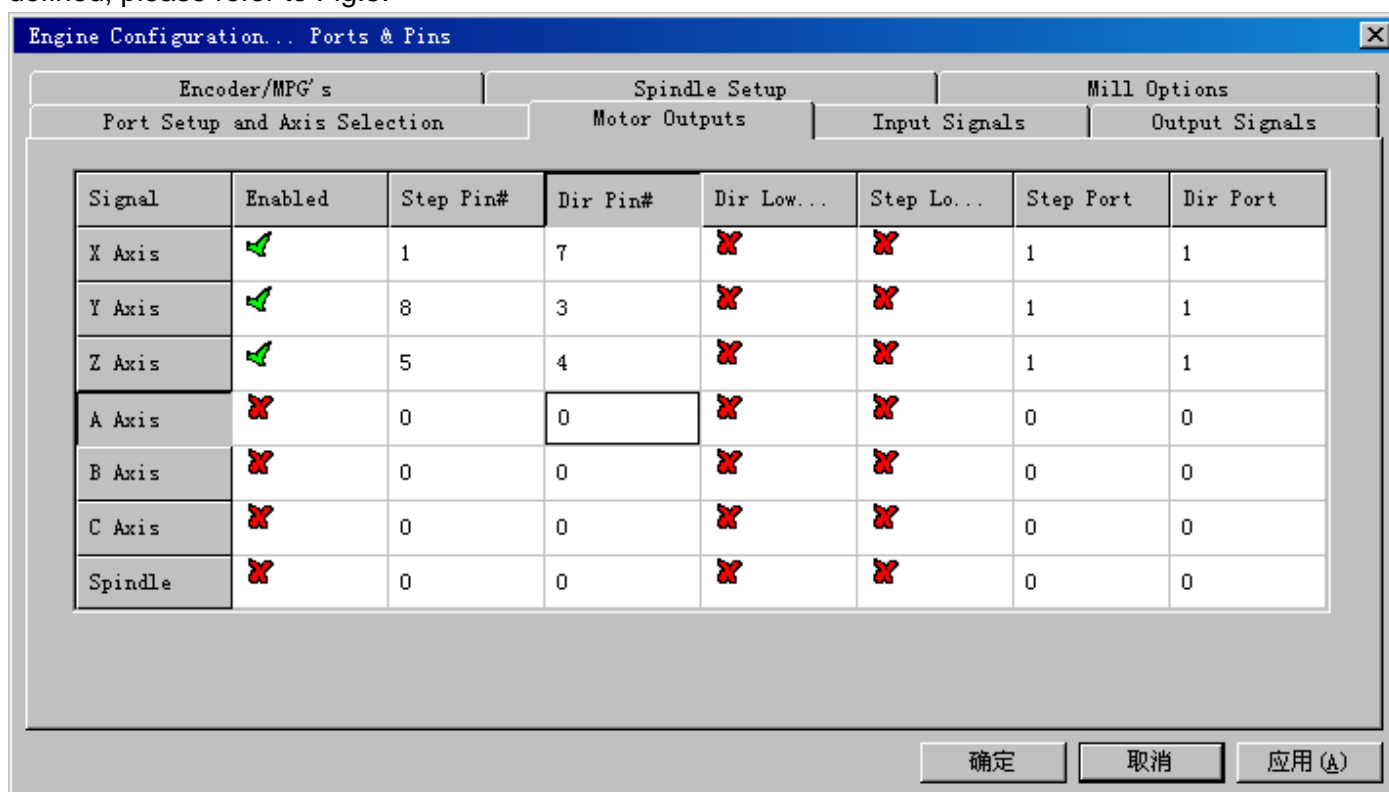
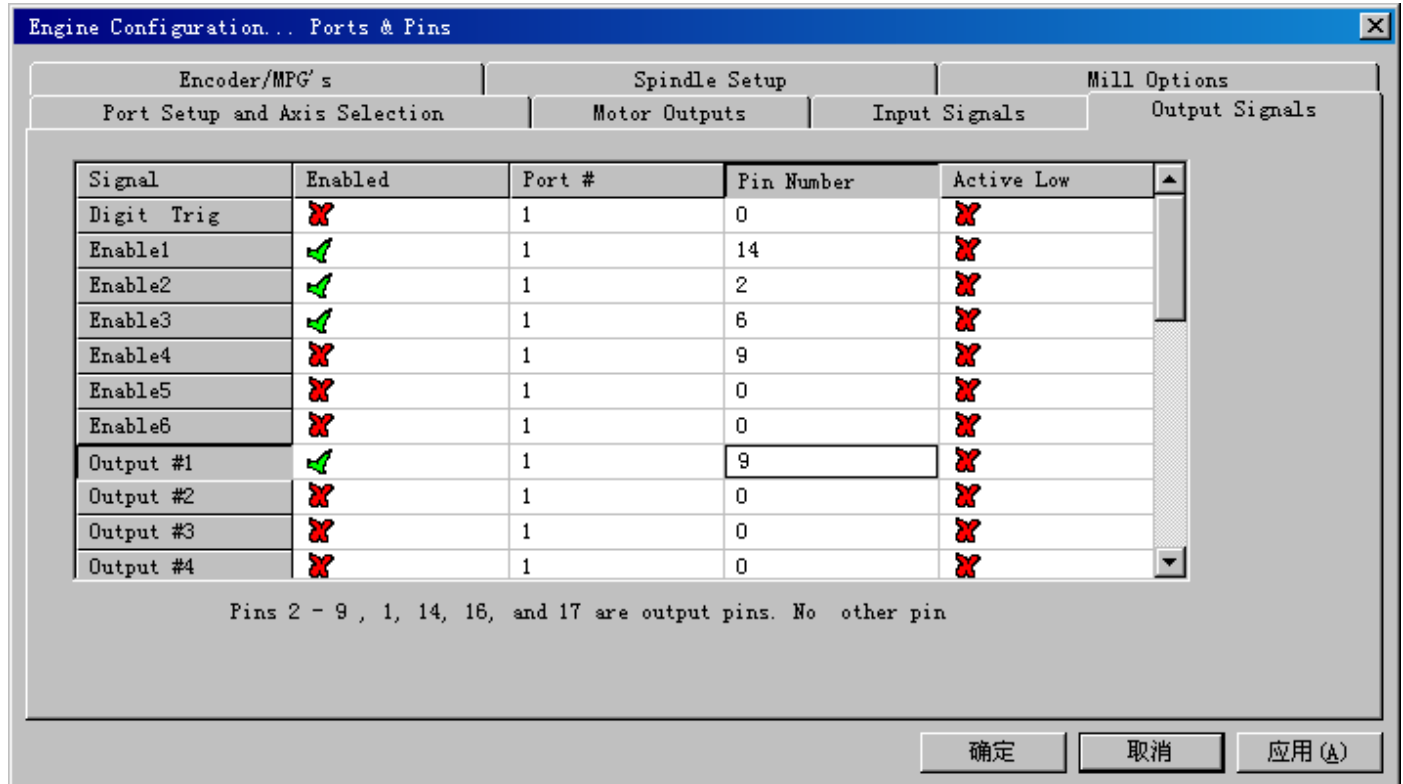

Fig.5
Fig.6
To set up the basic frequency within the above Circle 1. This parameter will affect the rotational speed of the motor. After the setup of basic frequency, select Circle 2 where *Configuration Scripting* will be defined, please refer to Fig.5.
Then select the *output signals* column, as shown in Fig.6, and set up the corresponding items per the setup described in the circle.
- Please double check the software settings according to the Fig.5 and Fig.6